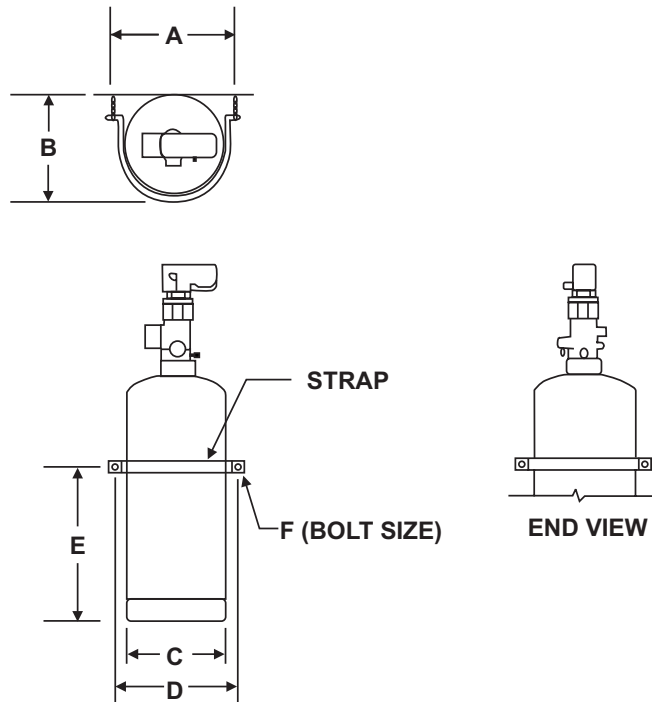

Figure 4-2. Single Cylinder Installation, Vertical Mounting
1. Position Kidde Engineered System cylinder in designated location and secure in place with cylinder strap and attaching hardware (see Figure 4-2 and Table 4-2 and Table 4-3). Orient cylinder with valve outlet angled toward system piping.
1. Position the Kidde Engineered System cylinder in designated location and secure in place with cylinder strap and attaching hardware (see Figure 4-2 and Table 4-2 and Table 4-3). Orient cylinder with valve outlet angled toward system piping.